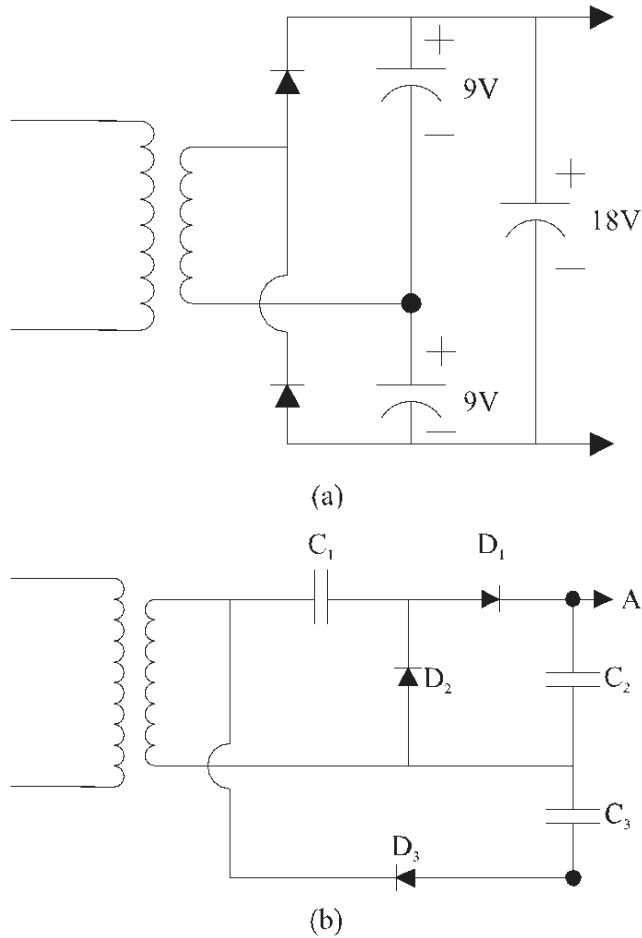

Figure 7-2-2. Voltage multiplier circuits.
3. Assemble the circuit shown in figure 7.2.2(a) and repeat the procedure outlined for the previous circuit.
4. Assemble the circuit shown in Figure 7.2.2(b) and measure the voltages across the capacitors and the voltage between points A and B.